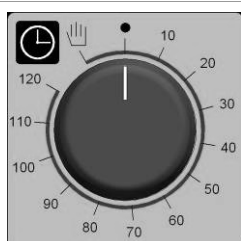

Fig. 4
**Programming cooking time** - To run the oven, turn the programmer knob (Fig. 4) in line with symbol  (continuous operation) or in line with the selected cooking time (up to 120 minutes). In the second case, end of cooking is signalled by the oven switching OFF automatically.